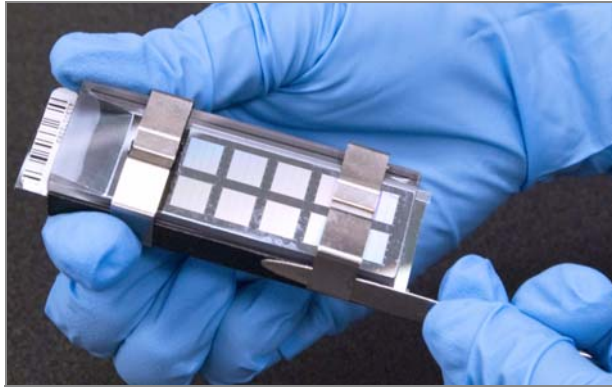

Figure 65 Removing Metal Clamps from Flow-Through Chamber
- a. Use the dismantling tool to remove the two metal clamps (Figure 65).